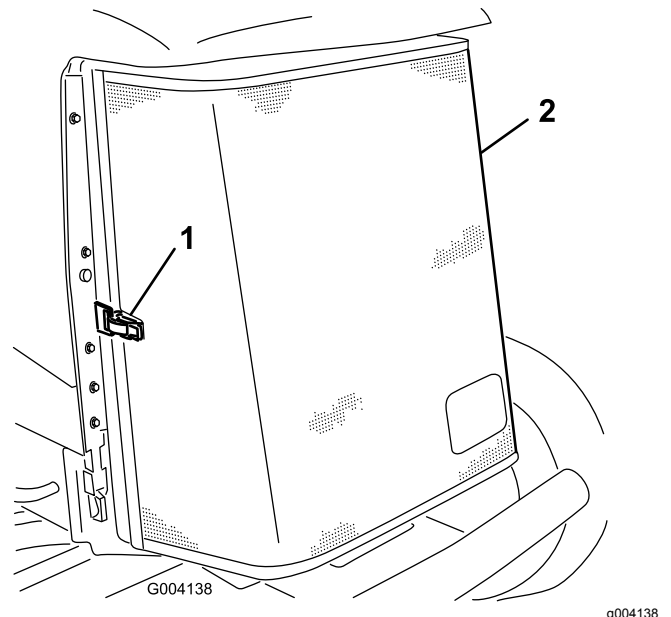

Figure 68
3. Unlatch the clamp and pivot open the rear screen (Figure 68).